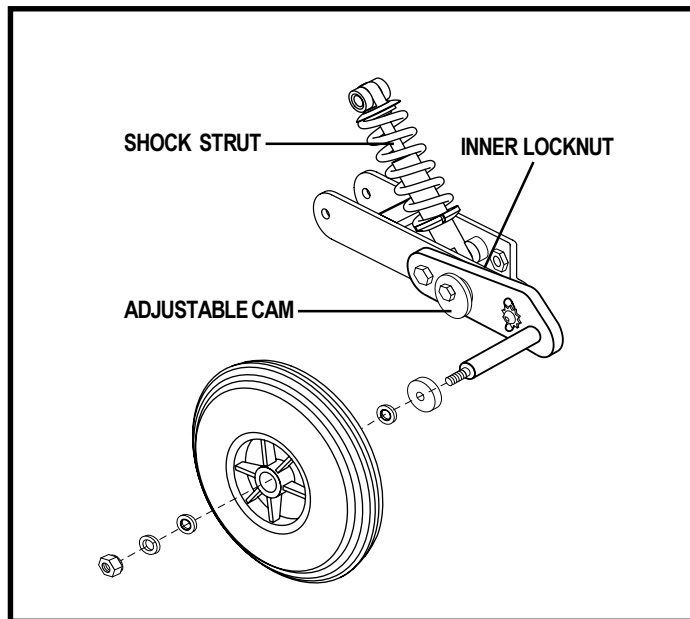

Figure 16. Anti-Tip Wheel Assembly
1. Place a spanner on the inner locknut of the anti-tip bracket located in front of the shock strut. See figure 16.